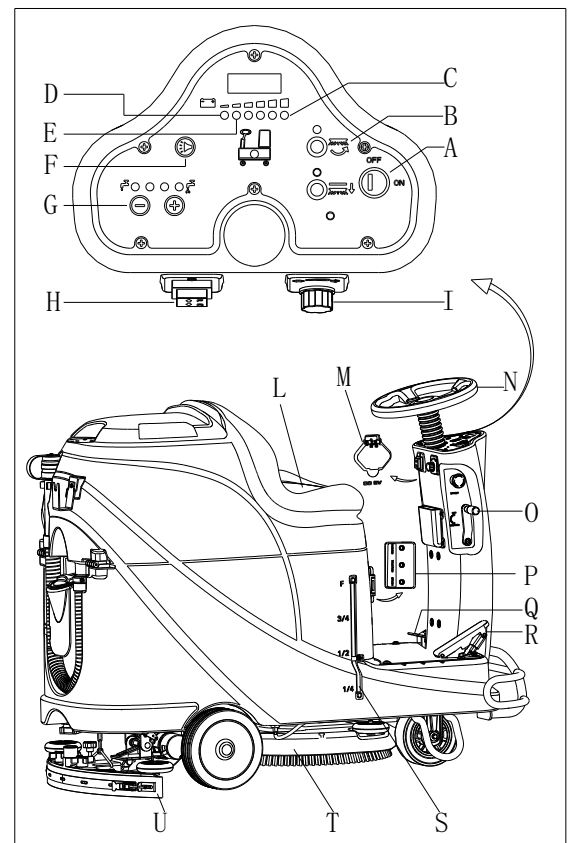

Figure 10
2. Sit on the seat (L, Figure 10), insert the key switch (A) and turn it to "ON". If the green light (C) is on, the batteries are fully charged for use. If the yellow light (E) or red light (D) is on, batteries must be charged before operation. [Refer to MAINTENANCE chapters for batteries charging]
11. Loosen the accelerate pedal (R, Figure 10), the machine stops running.
12. Press brush button (B) to stop brush motor.
13. Lift brush assembly (T) by depressing the pedal (Q).
14. Lift squeegee assembly (U) by squeegee lifting/lowering lever (O), and a few seconds later the vacuum system will be closed.